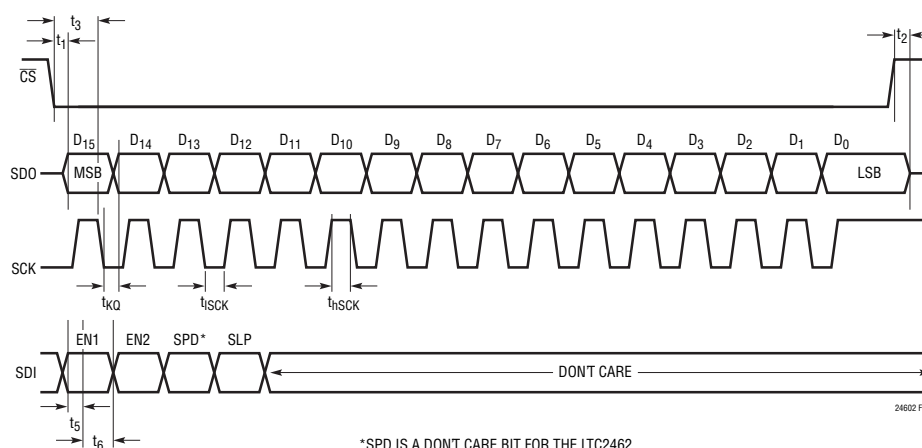

Figure 4. Data Input/Output Timing
**Note 7:** See Figure 4.
The LTC2460/LTC2462 generates a 16-bit direct binary encoded result. It is provided as a 16-bit serial stream through the SDO output pin under the control of the SCK input pin (see Figure 4).